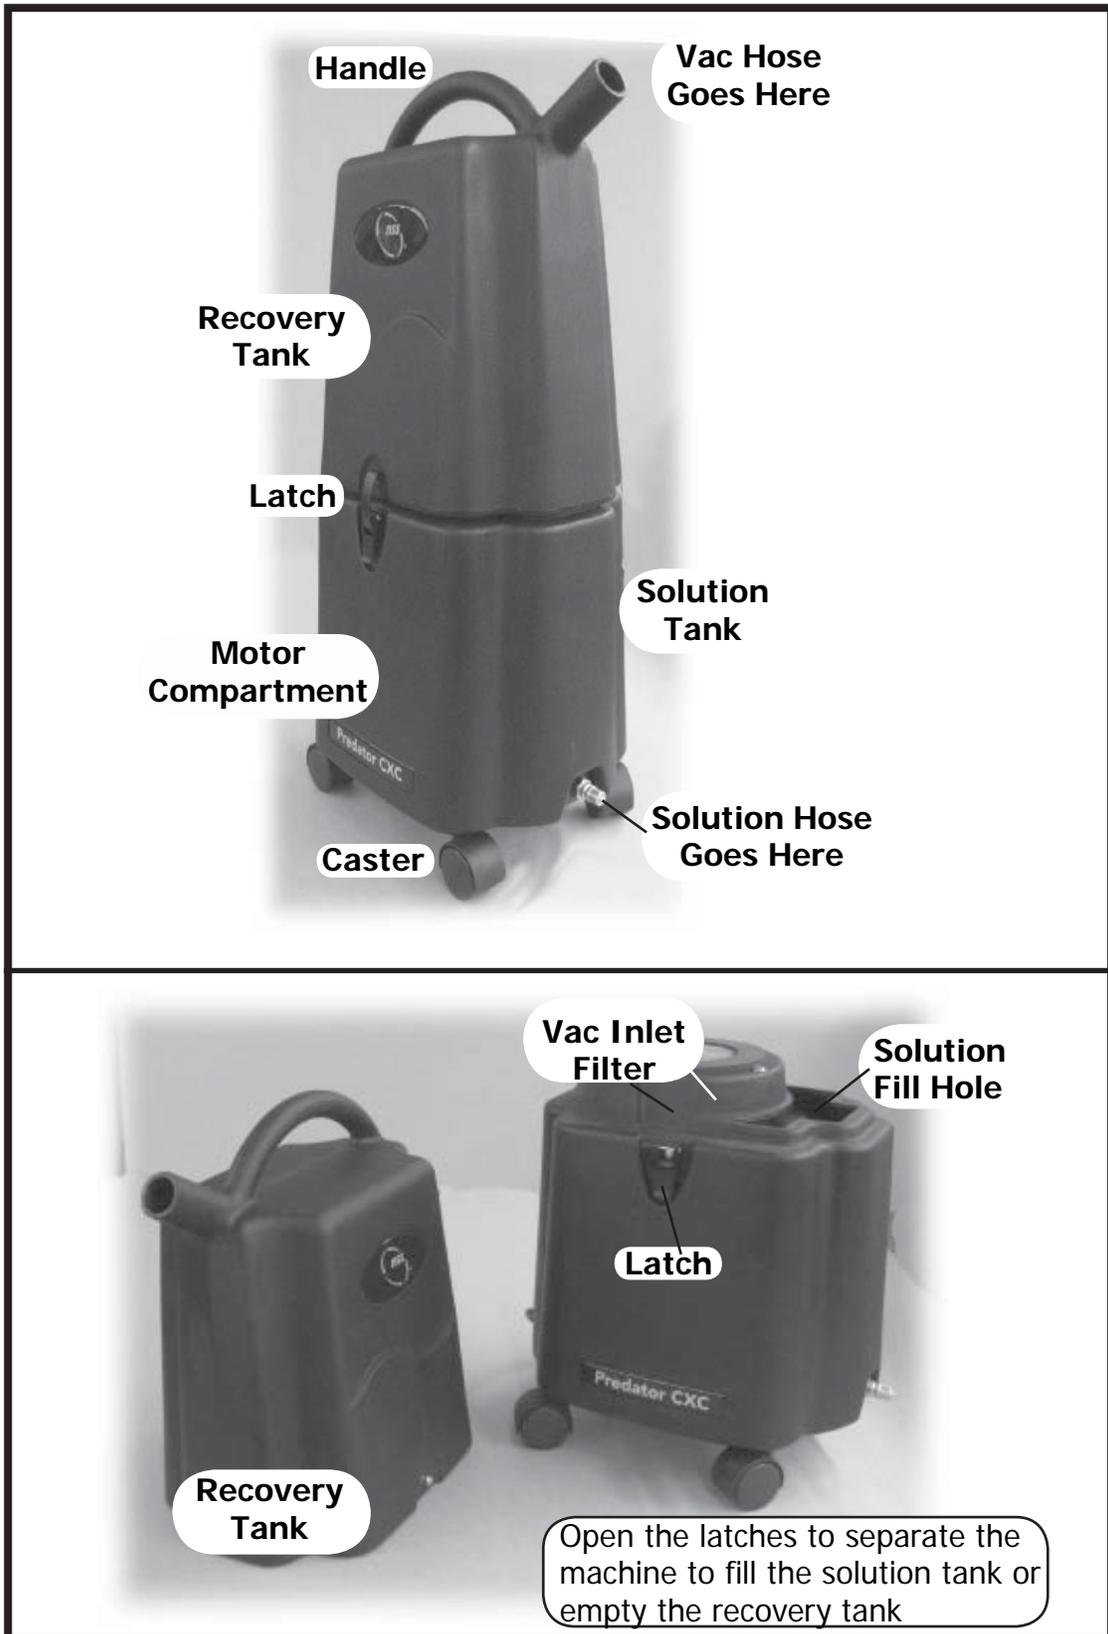

Figure 1
2. Release the two latches, grasp the handle on top of the recovery tank, and pull the recovery tank up (Figure 1) and off the solution tank. Set the recovery tank aside.